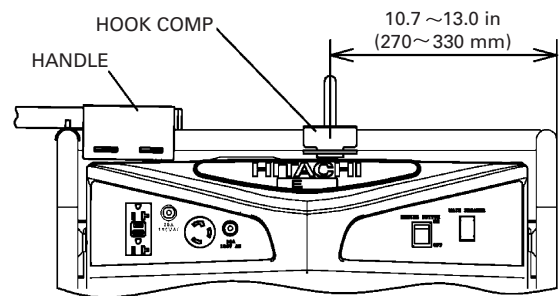

Fig.5
1. Position the HOOK COMP at the generator’s balance point as shown Fig.5